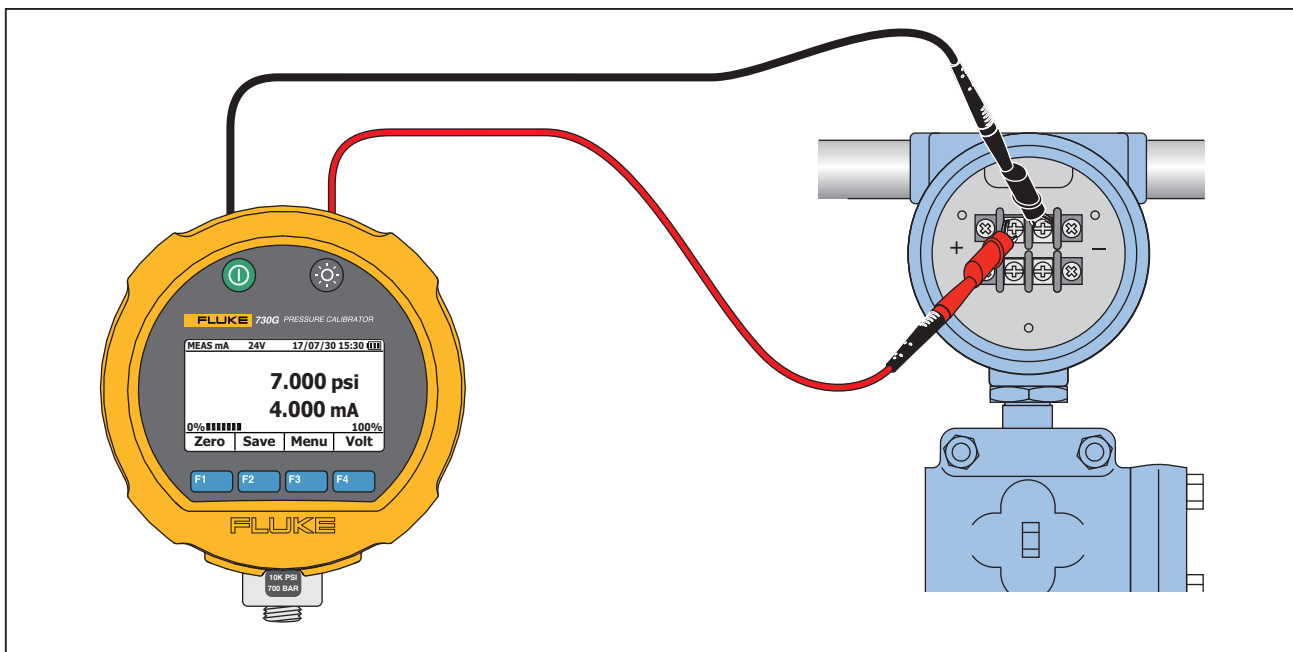

Figure 9. Internal Loop Power, Internal Resistance
1. Connect the Product to the HART device. See Figure 9.